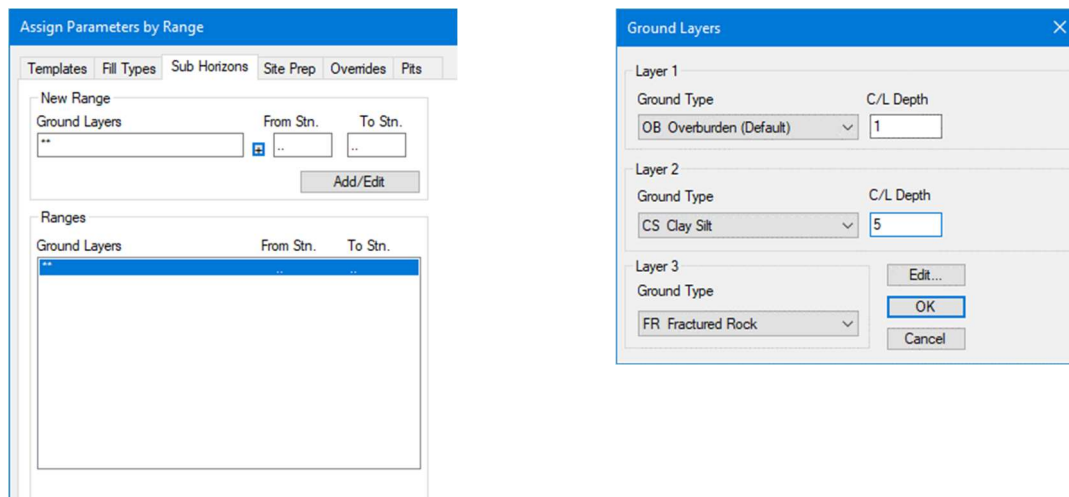

Figure 15-3: Defining Materials in the Original Ground
13. Press the  button beside the *Ground Layers* field to open the *Ground Layers* dialogue box. See Figure 15-3:
14. Set up the three sub-surface *Layers* shown above (Figure 15-3, right-side) and set the *C/L Layer Depths*: